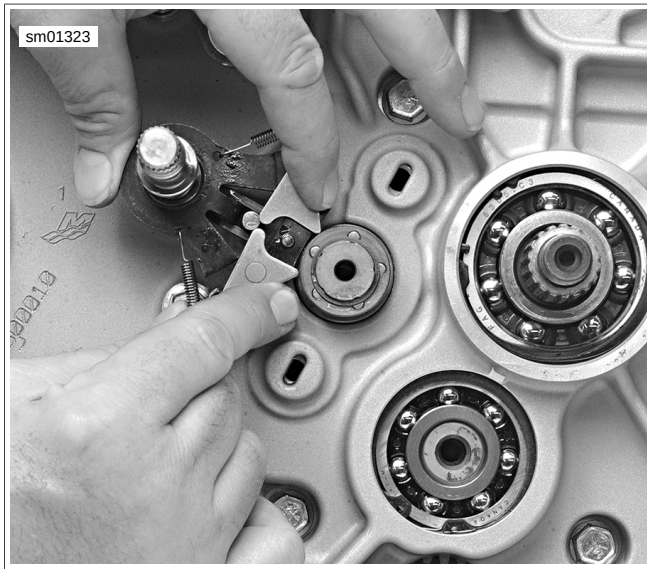

Figure 5-105. Installing Shifter Shaft Assembly
2. See Figure 5-105. Depress ratchet arms and insert shaft assembly into the bushing in the left case half and release. Ratchet arms should now be inside the end plate of the shifter drum contacting the shifter drum pins.
See Figure 5-105. The shifter shaft return spring can be installed incorrectly and then assembled in the left crankcase half. Failure to install the spring properly will result in improper shifting.